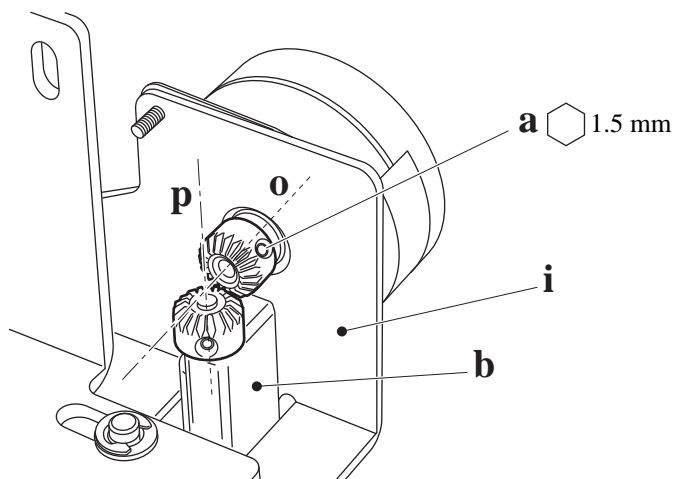
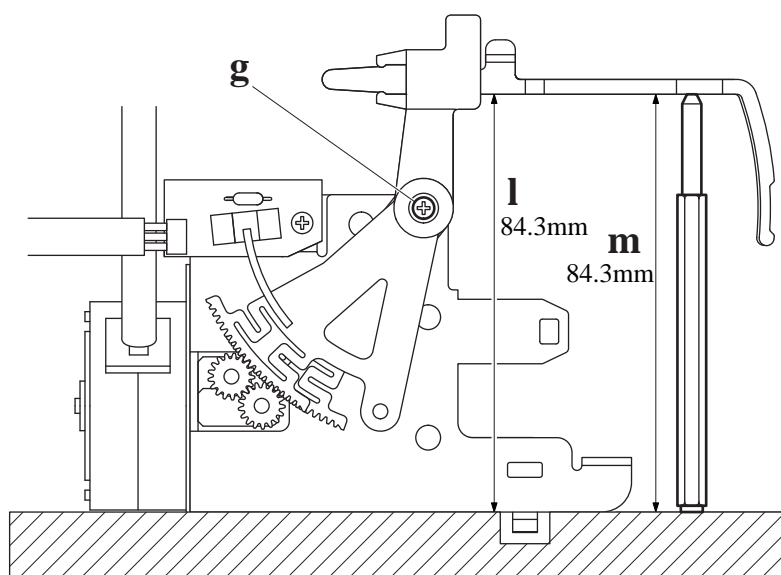
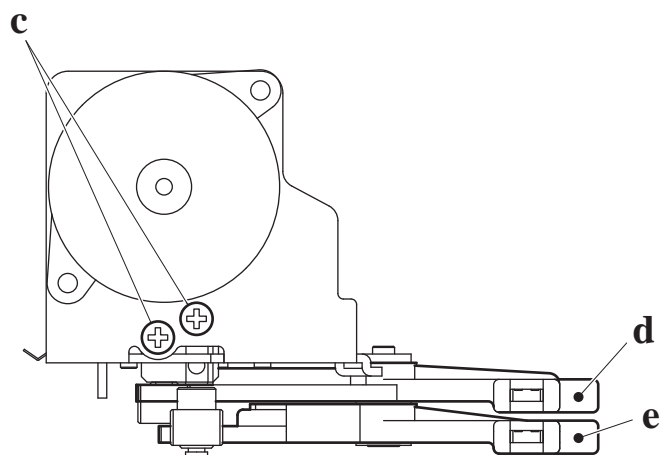

Fig.4
Fig.7
Fig.8
3. Loosen slightly set screws (Fig.4-a) for the miter gear set on the shaft of DECO step motor and make the miter gear idle on the shaft.
6. At the same condition of Article 5, put the unit on the surface plate (Fig.7) and measure the height at the part of "I" and "m" of the both Decorative Thread Guides. After finding same height at the both part as **84.3mm**, then set a miter gear loosened in the article 3, with set screws (Fig.4-a) while slightly touching with the another miter gear. If there is a different height at the "I" and "m", adjust the height with only Blue Decorative Thread Guide (Fig.8-d) and then fix miter gear. After that, remove Yellow Decorative Thread Guide (Fig.8-e) from DECO unit and set it again after securing the same height at the "I" and "m".
9. While power switch on, loosen the set screws (Fig.4-a) for a miter gear on the output- shaft of DECO step motor.
10. Adjust the position of DECO gears for the Blue & Yellow Decorative Thread Guides, so that it may secure the proper position (Fig.2) and be in mesh. Then tighten set screws (Fig.4-a) for miter gear.